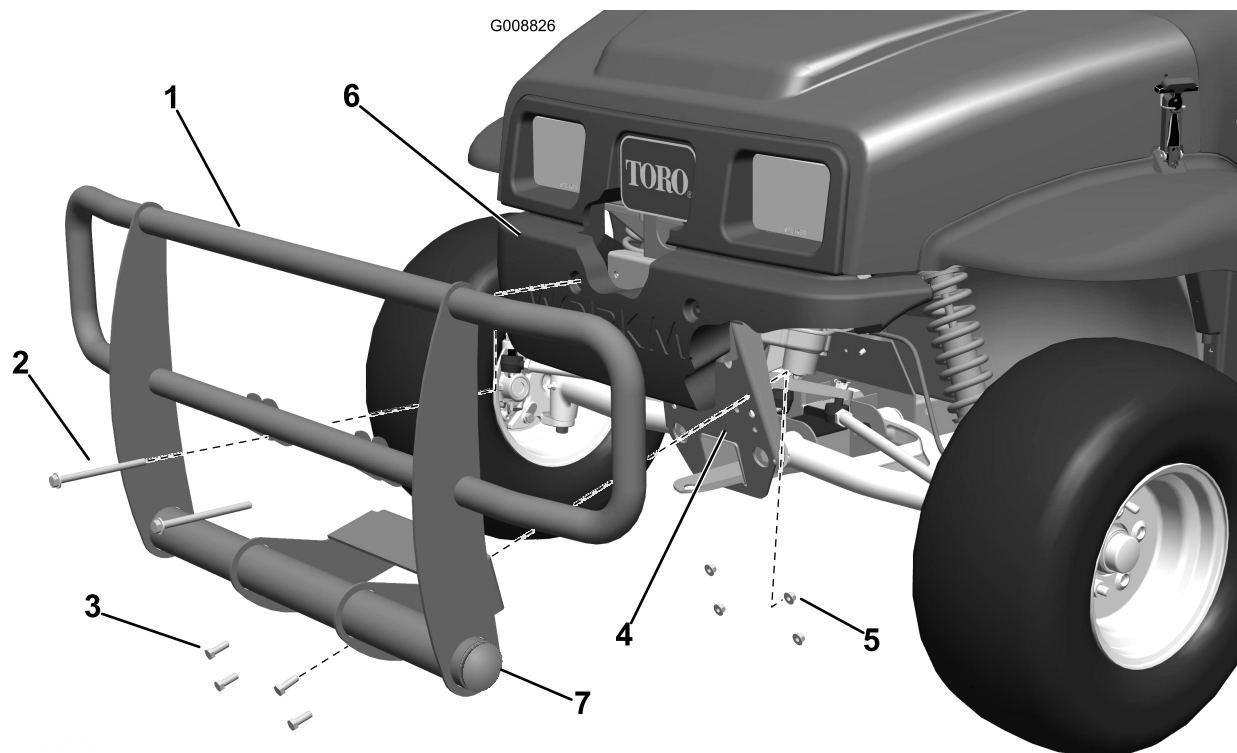

Figure 2
2. Install the brushguard and bumper assembly to the front mounting plate above the towing tongue and below the exiting plastic bumper (Figure 2).
3. Use four bolts (3/8 x 1 inch) and four lock nuts (3/8 inch) to secure the brushguard and bumper assembly to the mounting plate (Figure 2). Torque the fasteners to 27-33 ft-lb (37-45 N-m).
4. Install two flange bolts (3/8 x 5 inch) through the brushguard and into the existing plastic bumper at the two open holes (Figure 2). Use two lock nuts to secure the bolts and brushguard to the front of the vehicle at the bumper.